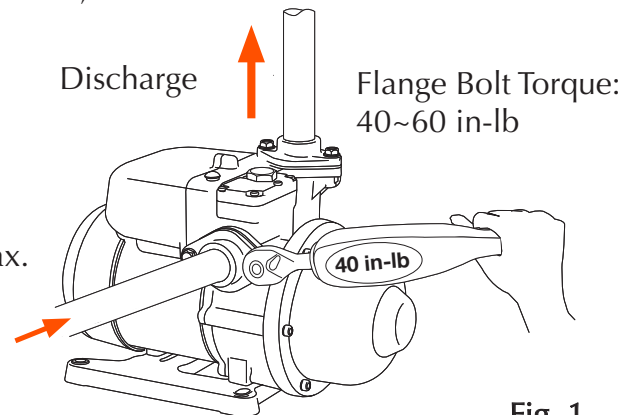

Fig. 1
3. Connect the suction pipe to the side and discharge pipe on the top. (See Fig 1)